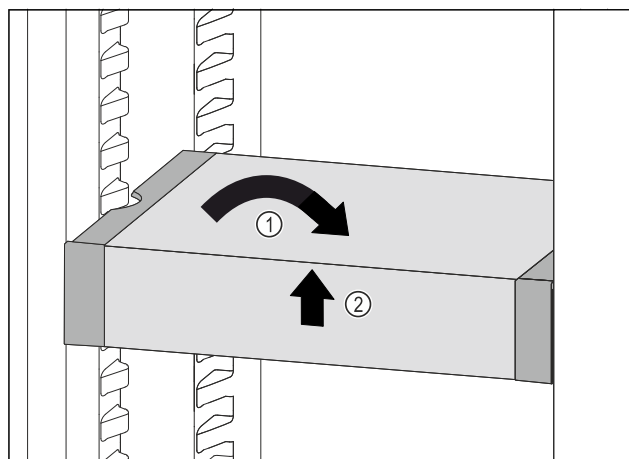

Fig. 60
- Set VarioSafe straight. Fig. 60 (1)
- Lift VarioSafe at the front. *Fig. 60 (2)*